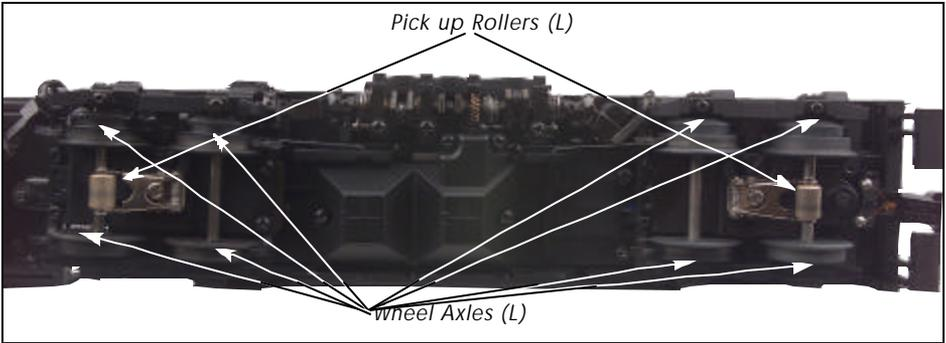

Figure 2 - Lubrication Points on the Engine
3. You should lubricate all gears, rods and linkage components also pickup rollers to prevent them from squeaking. Use light household oil and follow the lubrication points marked "L" in Fig. 2 on page 9. Do not over oil. Use only a drop or two on each pivot point.
You should regularly lubricate all gears, rods and linkage components and pick-up rollers on the engine and tender to prevent them from squeaking. Use light house hold oil and follow the lubrication points marked "L" in Figure 2. Do not over oil. Use only a drop or two on each pivot.